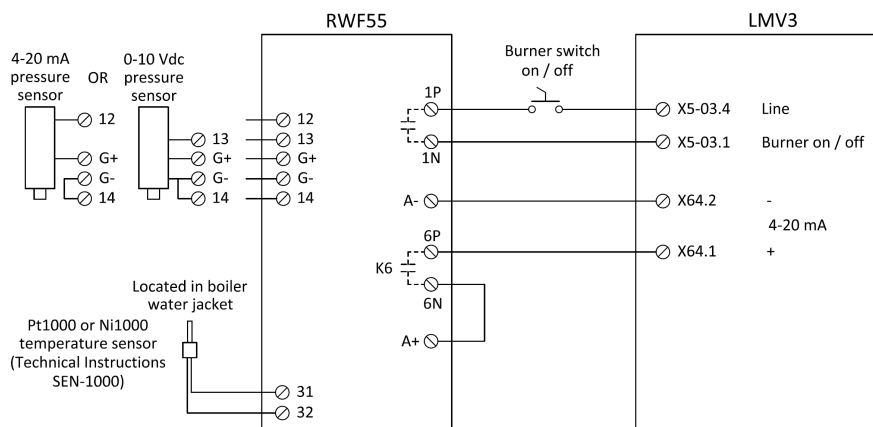

Figure 5: Low Fire Hold via Analog Output on a Steam Boiler
3. Wire the LMV3 and RWF55 as shown in Figure 5: